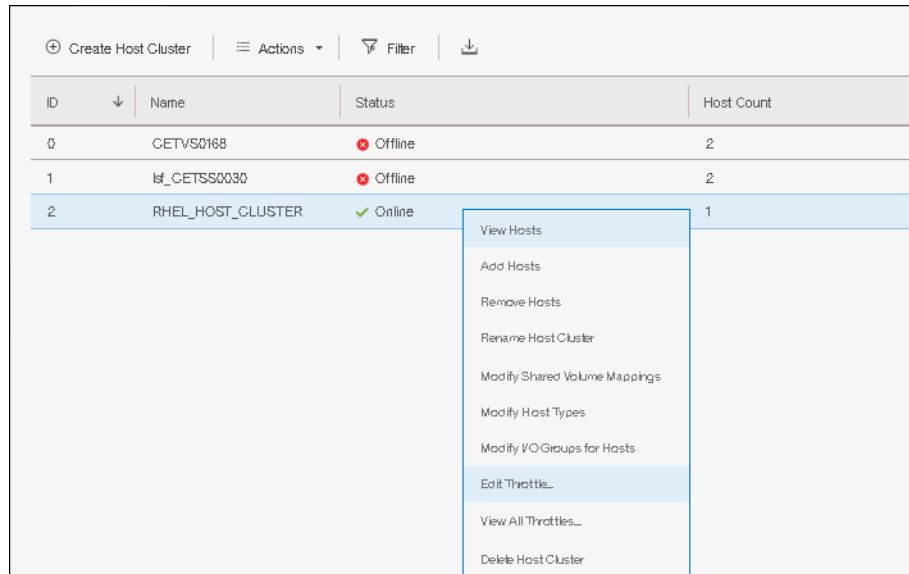

Figure 5-118 Selecting Edit Throttle option
2. Right click on the desired host cluster and select **Edit Throttle** as shown in Figure 5-118.